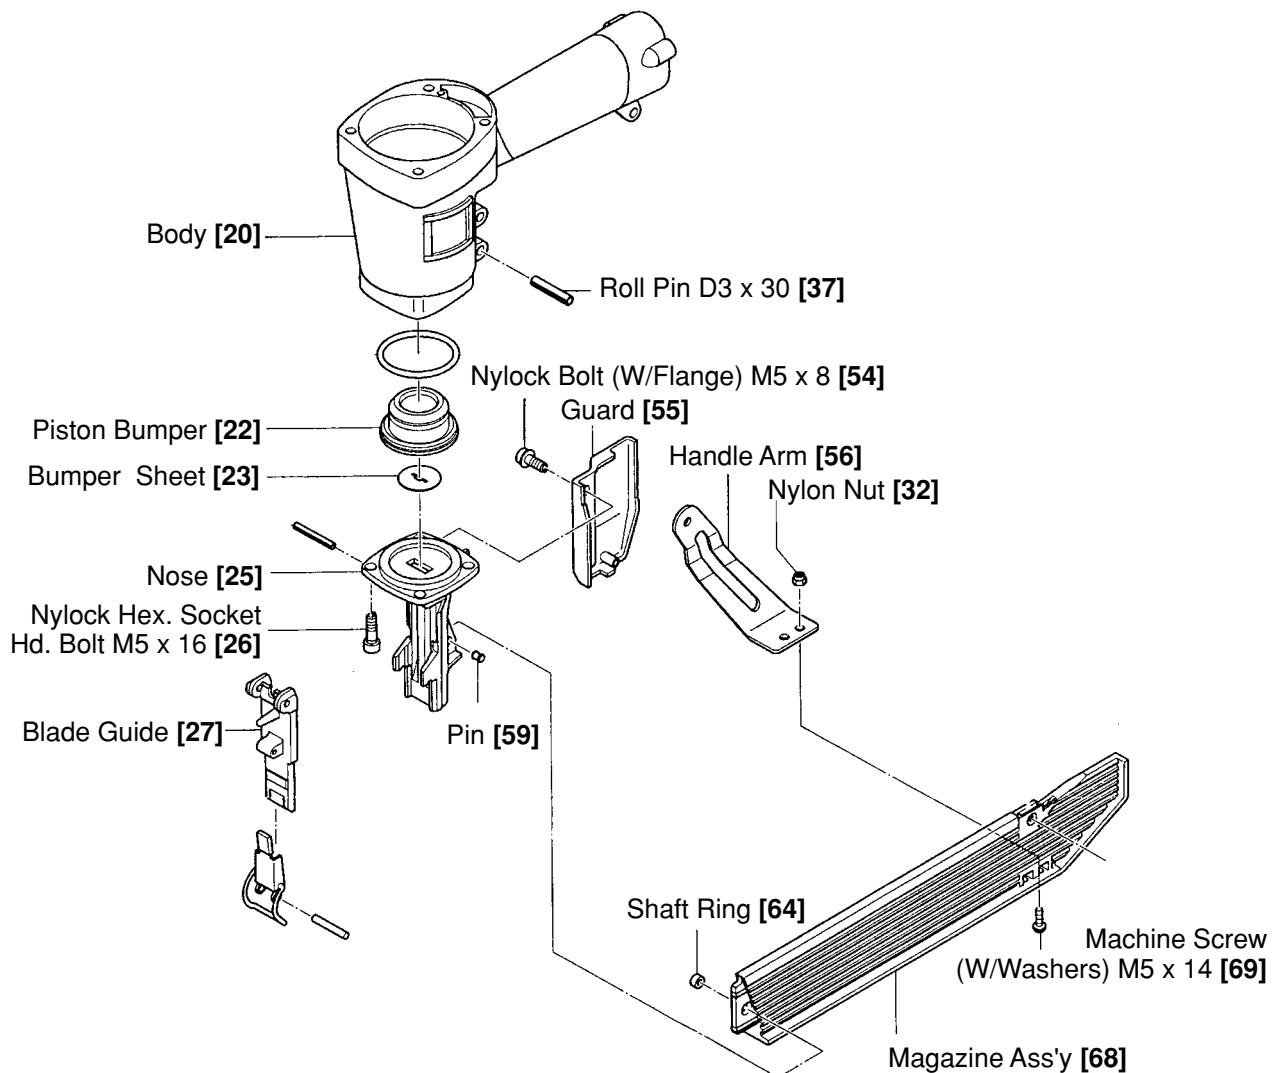

Fig. 13
(3) Piston Bumper [22] and the related parts (See Fig. 13.)